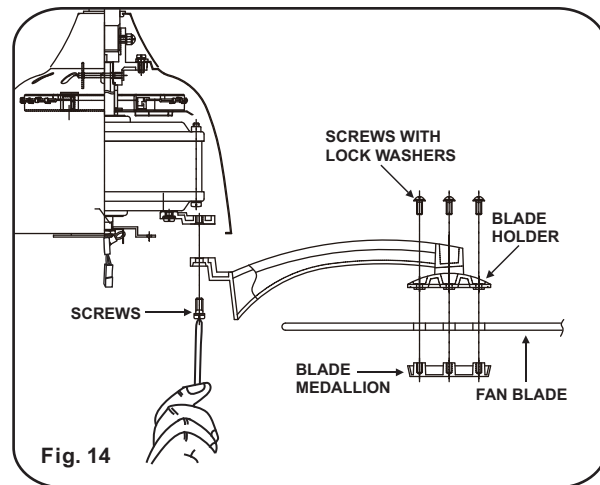

Fig. 14
Step 1. Attach the blade to the blade holders and blade medallions using the screws with lock washers as shown in Figure 14. Start a screw into the blade holder, do not tighten. Repeat for the 2 remaining screws and washers.
Step 3. Fasten blade assembly to motor using the screws supplied. (Fig. 14)